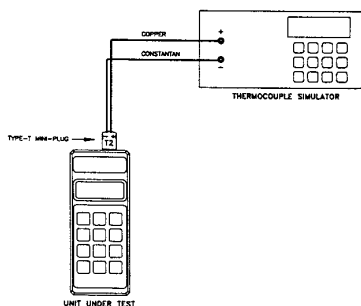
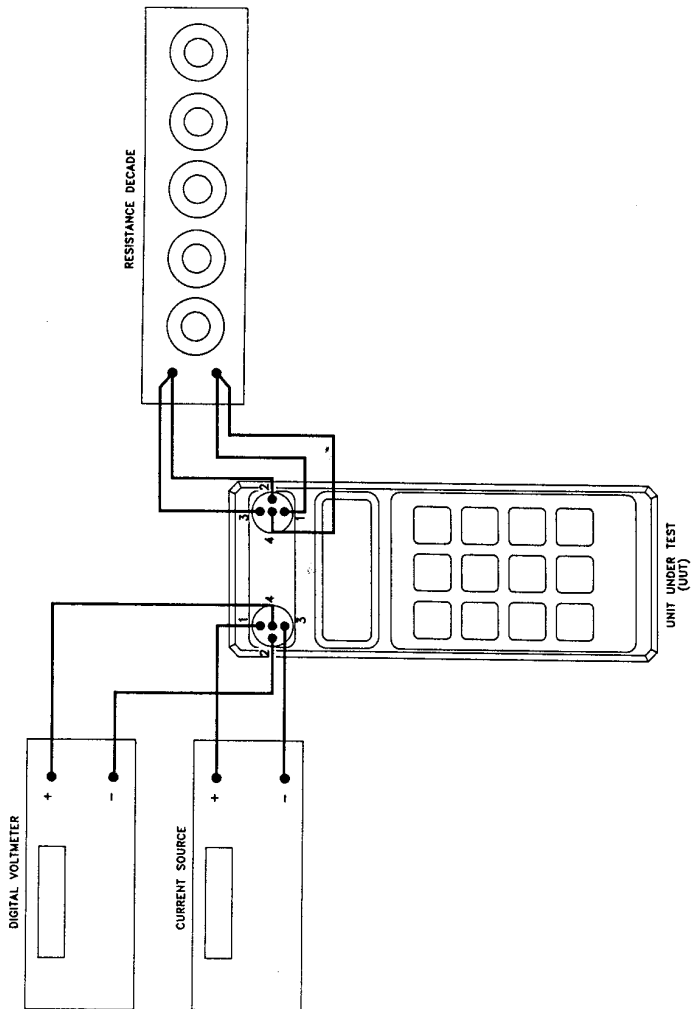

Figure 12. Calibration Setup, Meter Mode.
Figure 14. Resistance Calibration Setup
NOTE: The copper constantan cables used in Figures 12 and 13 need to be calibrated. Voltage errors in these cables should be compensated at the simulator.
10. Reconfigure calibration set-up per Figure 12. Allow 2-3 minutes for thermal stabilization.
15. Reconfigure calibration setup per Figure 12. Leave simulator output at 32°F, Type T, ALLOY mode. Allow 2-3 minutes for thermal stabilization.
4. Calibration cables per Figure 14.
3. Hook up test-equipment and unit per Figure 14.
Calibration is verified with the same instrument hookups as used for calibration (ie. Figures 12 and 13 for thermocouple functions, Figure 14 for resistance functions).